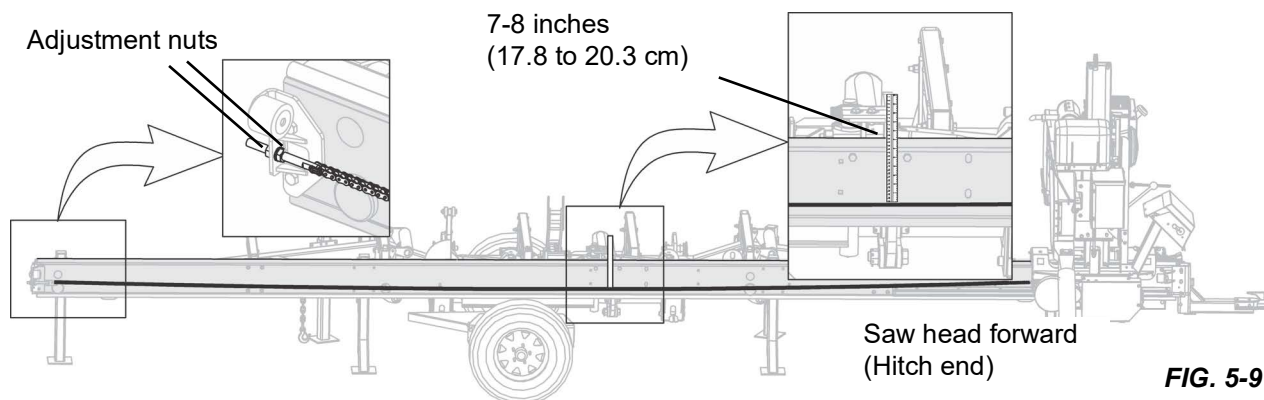

FIG. 5-9
1. Adjust the power feed chain as needed. **See Fig. 5-9.**